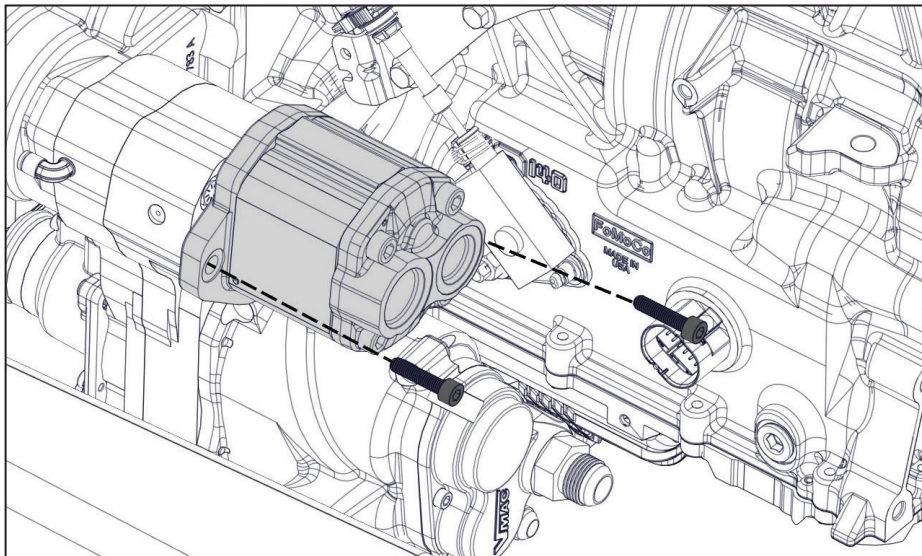

Figure 22 — Securing the hydraulic pump
- ☐ Apply Loctite 242 (blue) to the supplied fasteners and install the hydraulic pump. Refer to the instructions included with the hydraulic pump for torque values (Figure 22).